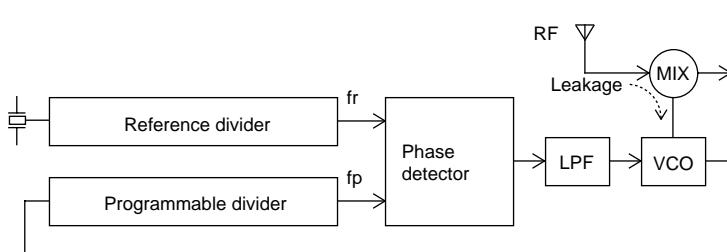
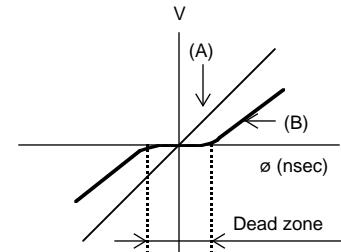

Figure 1
Figure 2
The phase comparator compares fp with the reference frequency (fr) as shown in figure 1. This circuit outputs a voltage V (A) that is proportional to the phase difference ϕ as shown in figure 2. However, due to internal delays and other factors, the actual IC is unable to compare small phase differences, and thus a dead zone (B) appears in the output. To achieve a high signal-to-noise ratio in the end product, the dead zone should be as small as possible.